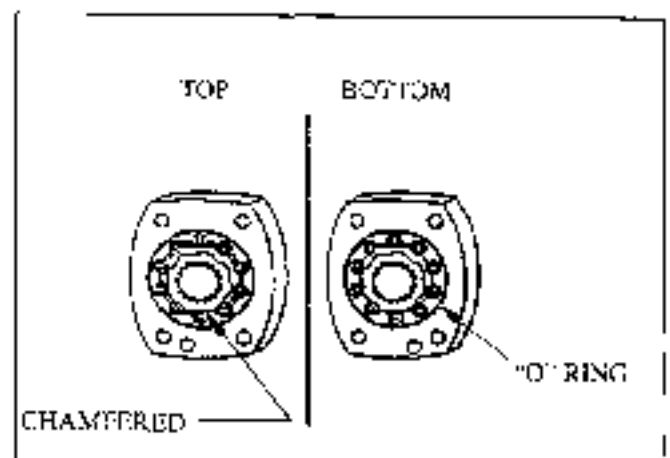

Figure 42
- Place "O" Rings into each side of the geroler. See Figure 42.
Note: The chamfered side as indicated in Figure 42 (top) goes up. The small drain port in the wear plate, geroler, and timing valve plate are not functional but should be lined up during assembly.